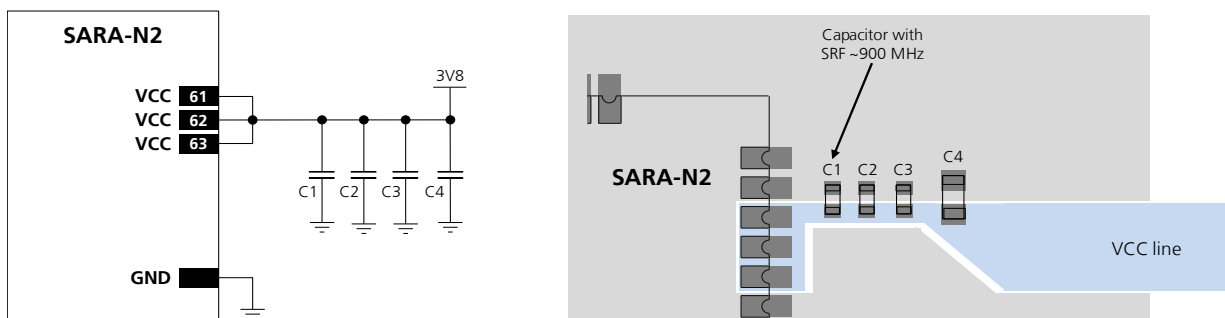

Figure 12: Suggested schematic and layout design for the VCC line, highly recommended when using an integrated antenna
For devices integrating an internal antenna, it is recommended to provide space to allocate all the components shown in Figure 12 and listed in Table 12.
- The bypass capacitors in the pF range described in Figure 12 and Table 12 should be placed as close as possible to the **VCC** pins. This is highly recommended if the application device integrates an internal antenna.